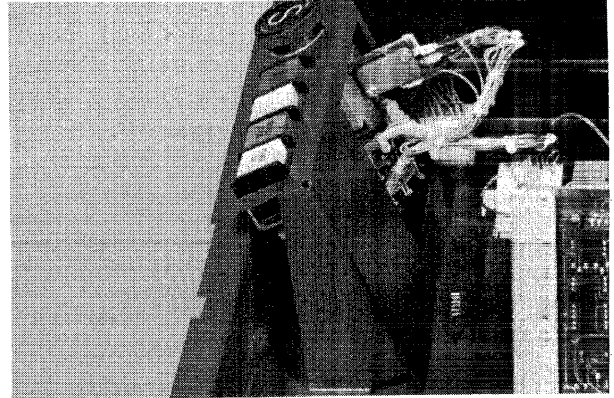

Figure 5-6. Operator Control Panel
- Loosen four screws fastening panel to cabinet (see Figure 5-6).